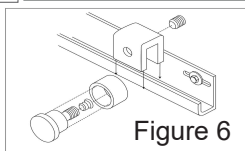

Figure 6
12. Slip the Adjustable Door Stop over the track and tighten (Figure 6).